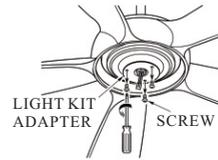

FIG. 12
2. Remove 3 screws on light kit adapter. (see Fig. 12)